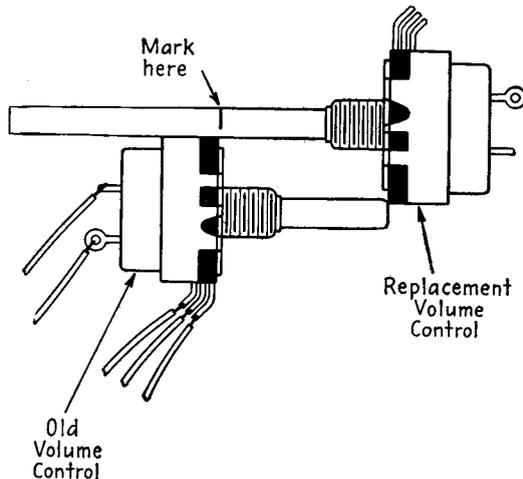

FIG. 11-11. Measuring the replacement volume control for length.
- a. Measure it against the original as shown in Fig. 11-11 and mark the proper length.